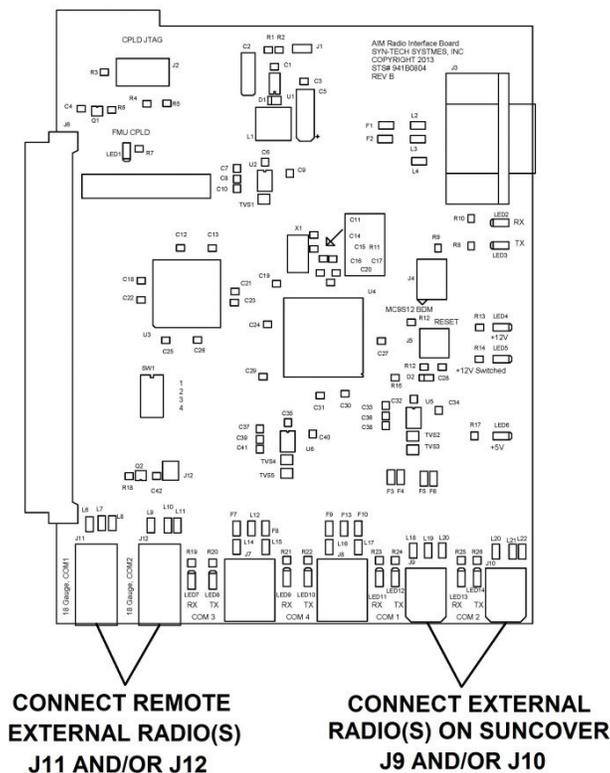

Figure 10. Radio Interface Board (RIB) External Radio Connections
**NOTE** See Figure 10. External Radio cable connections into the RIB will vary depending upon whether the External Radios are mounted on the FMU Suncover, or remote.